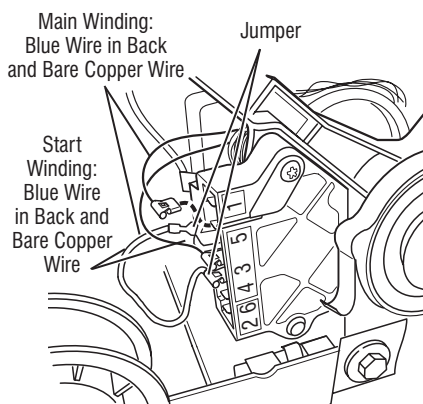

Figure 9 - Main and start winding measure points.
9. Remove the bare copper wire terminal from pin 5 of black drive motor switch. See figure 9.
10. Using figure 9 and the strip circuit on page 23, check for the resistance values of the motor's Main and Start winding coils as shown in the following table.